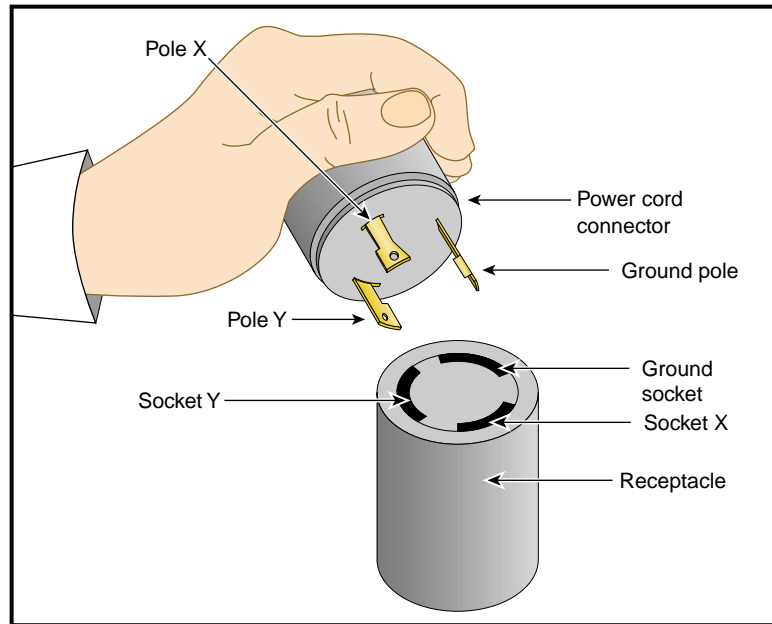

Figure C-1 30-amp Single-phase Power Receptacle for North American Sites
2. Check the voltage between socket X and socket Y (see Figure C-1). The meter should read between 200 and 240 VAC.